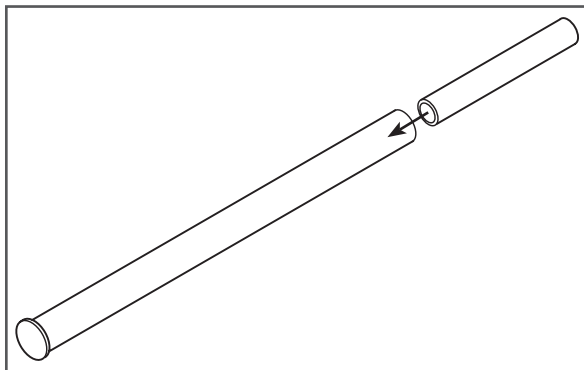

Figure 1
1. Slide the splice bar halfway into a track segment, aligning the hole in the splice bar with the hole in the track segment (Figure 1).